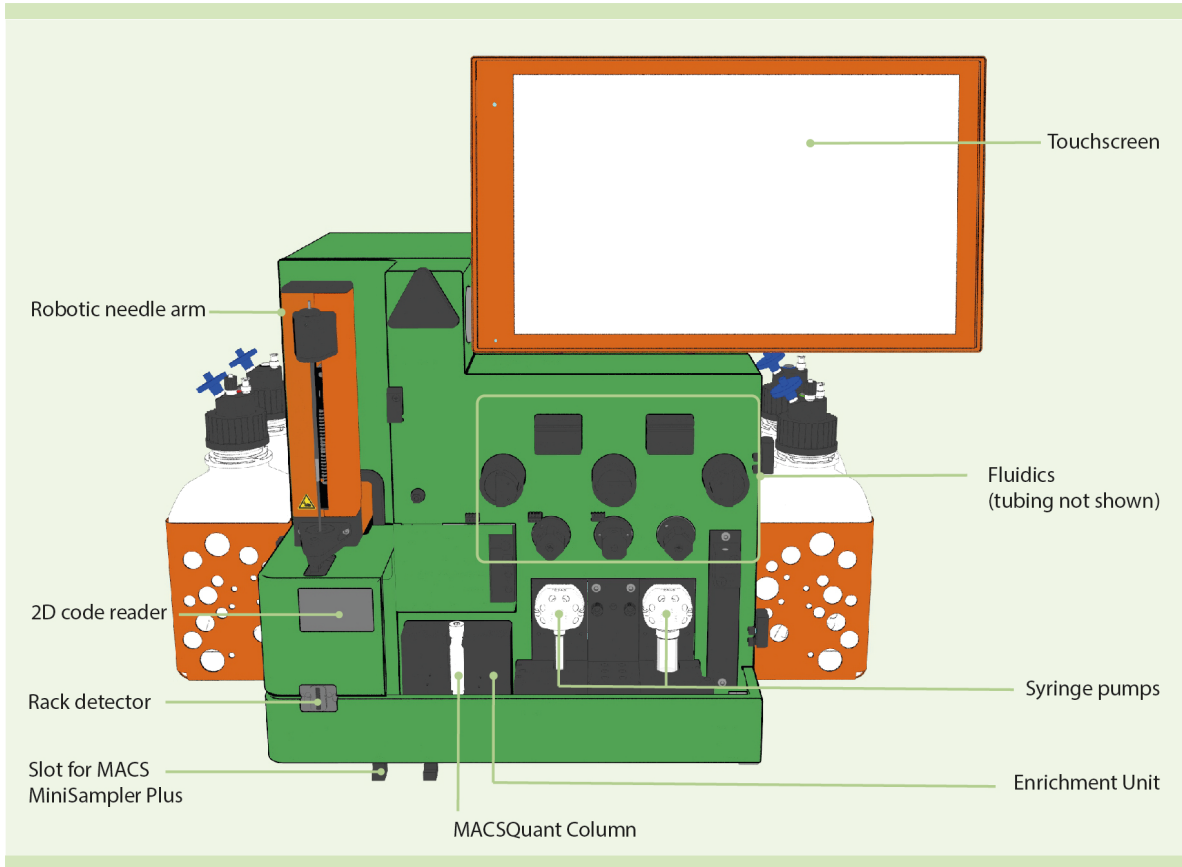

Figure 1.2: Front view of the MACSQuant® Instrument, door not shown.
- 5 Connect the 4-end fluid sensor cable to the port labeled **Bottle Sensor** at the back of the instrument (see **Figure 1.2**) and fasten securely.